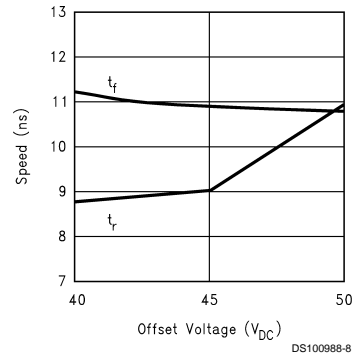

FIGURE 7. Speed vs Offset
*Figure 7* shows the variation in rise and fall times when the output offset of the device is varied from 40 VDC to 50 VDC. The rise time shows a maximum variation relative to the center data point (45 VDC) of about 21%. The fall time shows a variation of about 3% relative to the center data point.